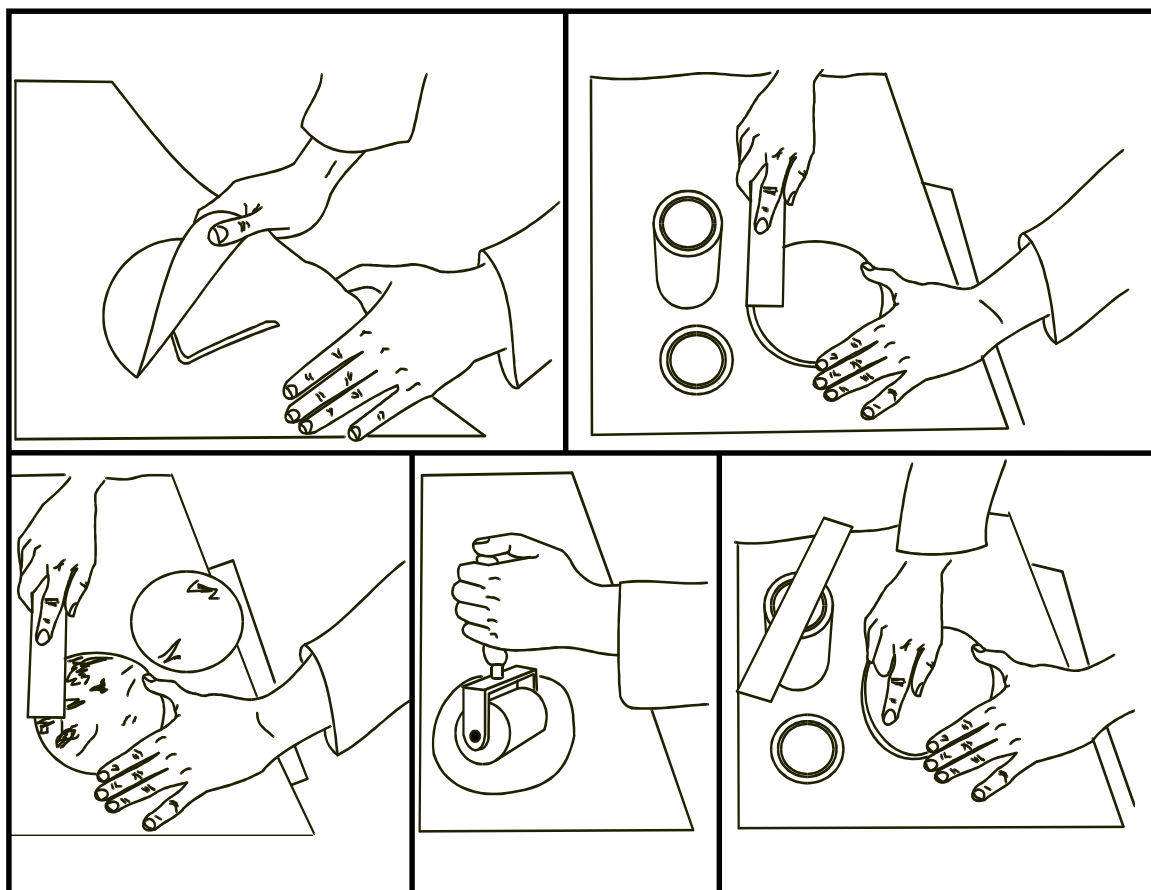

Figure 10-2. Cement patching a large hole
b. Repairs for Large Holes and Tears. Cemented patches are used to cover holes and tears that are more than 1/8 inch but less than 4 3/4 inches across. Putting a cemented patch on a tent is similar to patching a bicycle tire. To apply a cemented patch (Figure 10-2)--
(1) Obtain a ruler, chalk, wire brush, flat board, paddle, roller, tent-patching adhesive, and a piece of clean matching canvas.
(2) Measure the damage.
(3) Cut a round patch from a piece of matching canvas. Make the patch large enough to extend 3/4 inch beyond the damage in all directions.
(4) Place the board under the damage. (On an erect tent, another fabric repair specialist inside the tent holds the board against the damage.)
(5) Center the patch over the damage, and draw a circle with chalk around the patch.
(6) Remove the patch. Use a wire brush to clean the canvas inside the circle and raise the nap of the canvas.
(7) Clean the patch with the wire brush.
(8) Place the patch facedown over the damage.
(9) Open the can of adhesive and use the paddle to coat the patch evenly with adhesive. Let the adhesive overlap the edge of the patch a little so that it forms a circle on the tent.